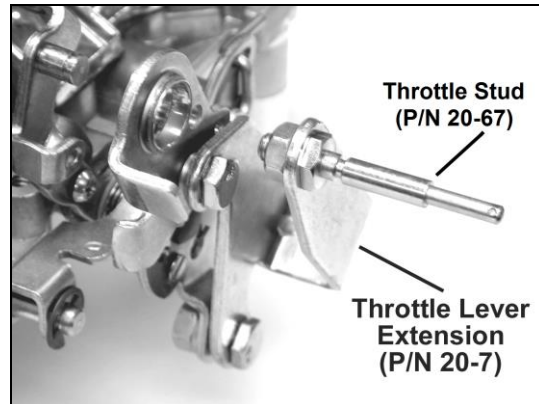

Figure 1—Chrysler applications
1. Unless you are replacing an existing Holley® carburetor (which already has a lever extension arm), you may need to purchase and install a throttle lever extension (Holley® P/N 20-7) on the carburetor. Remove the throttle stud and nut from the original carburetor. You can purchase a new stud from your Holley® dealer (Holley® P/N 20-67). Install the stud in the throttle extension lever (Figure 1).